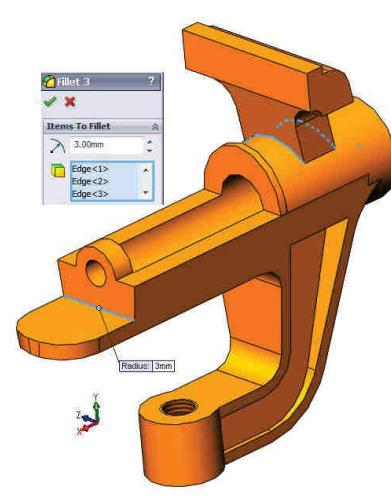

Fig. 2.18
**30 Raciordare 3 muchii R3:** comanda Fillet - Fig. 2.18 - rază R3 / selecție 3 muchii /
**30 How to fillet 3 R3 edges:** the Fillet command - Fig. 2.18 - R3 radius/ select 3 edges /